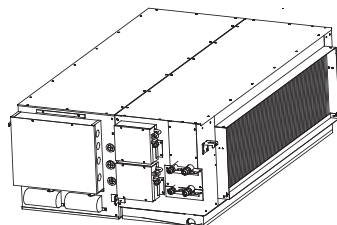

Fig.4-20
- 1 The indoor unit show as *Fig.4-20*